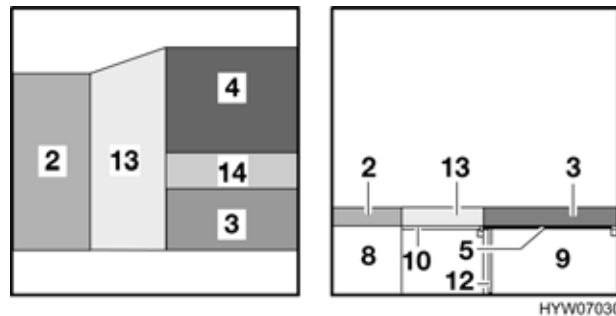

Fig. 84 After conversion
- Lay the back cushion (Fig. 84,3) of the central bench on the table-top.
- Insert the small additional cushion (Fig. 84,14) between the seat cushion (Fig. 84,4) and the back cushion (Fig. 84,3).
- Lay the big additional cushion (Fig. 84,13) on the bedding box extension.